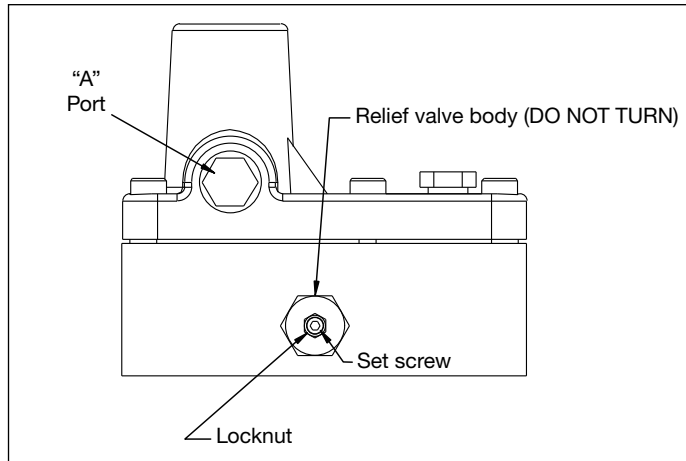

Figure 11, Relief Valve - VM22
1. Install a 0-15,000 psi [0-1,035 bar] gauge in the "A" port (see Figure 11).